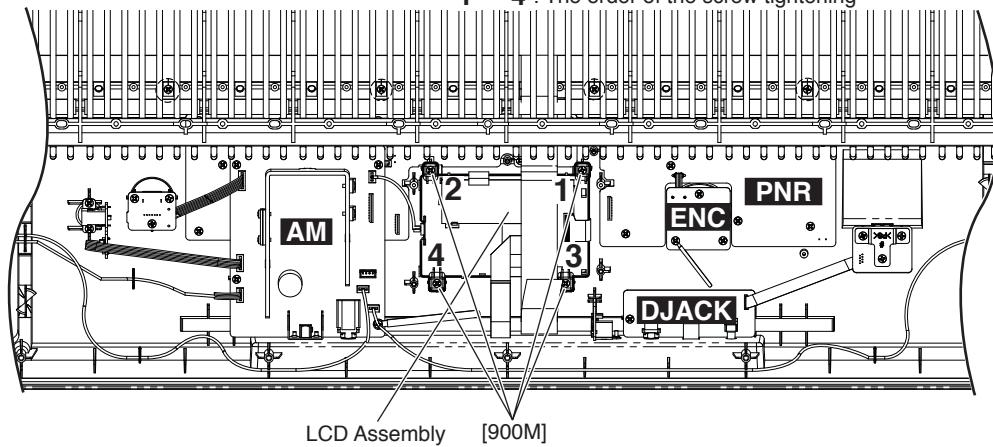

Fig.4
- 3-3 Remove the four (4) screws marked [900M]. The LCD assembly can then be removed. (Fig.4)
- * When the LCD assembly is assembled, tighten the screws marked [900M] in the order of 1, 2, 3 and 4. (Fig.4)